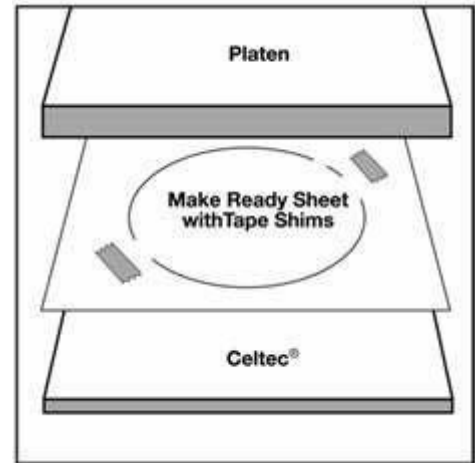

Figure 1i
- When dies include intricate patterns and/or sharp bends, more pressure will be required to make the cut. Additional tape shims to build up the cutting plate may be needed in these areas (Figure1i).